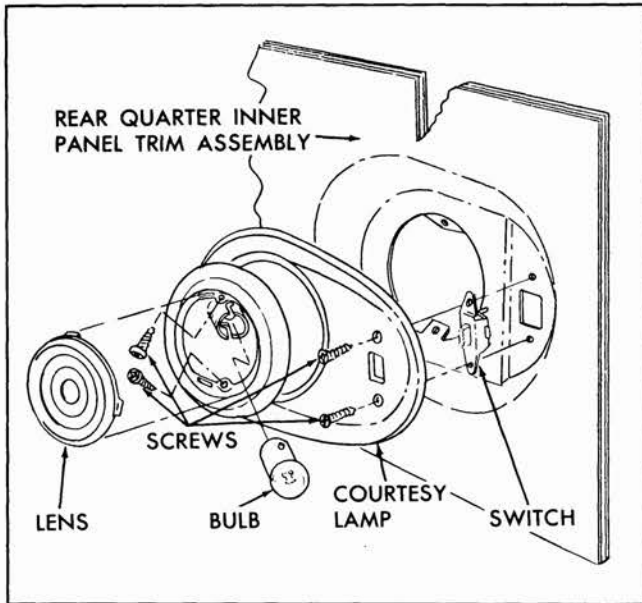

Fig. 4-11 Rear Quarter Courtesy Light
1. On "45" style, remove screws securing courtesy lamp and switch assembly to trim panel and carefully remove assembly sufficiently to disengage wires at rear of lamp and switch. Remove rear finishing panel (Fig. 4-11).